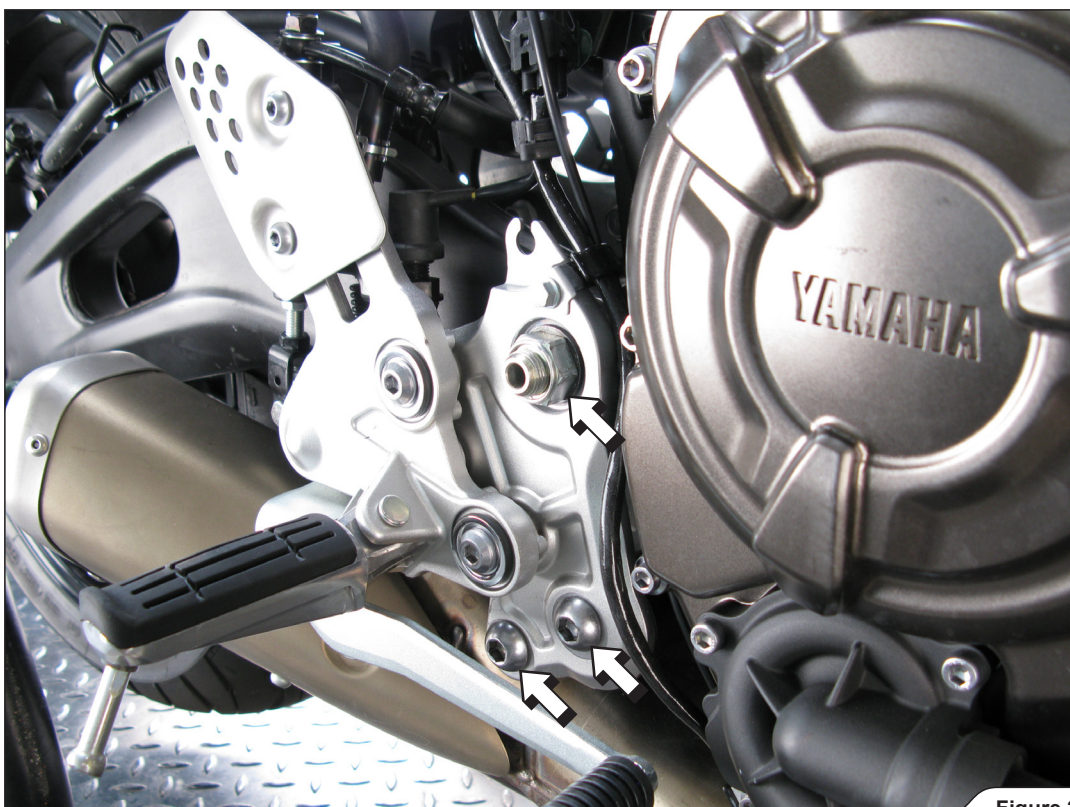

Figure 2
3. Unscrew the marked bolts and nut. Partially remove right footrest bracket (**Figure 2**).